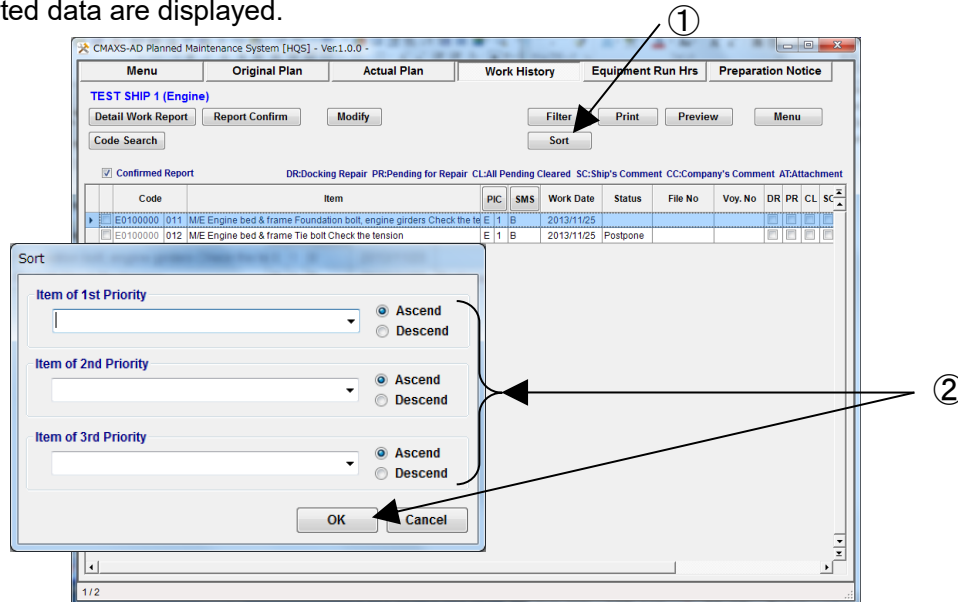

Fig.13-7 Work History Screen
(1) Select [Sort] button on the "Work History Screen"(Fig.13-7).
(2) Select sort key and sort order of "Ascend" or "Descend". Then, select [Ok].